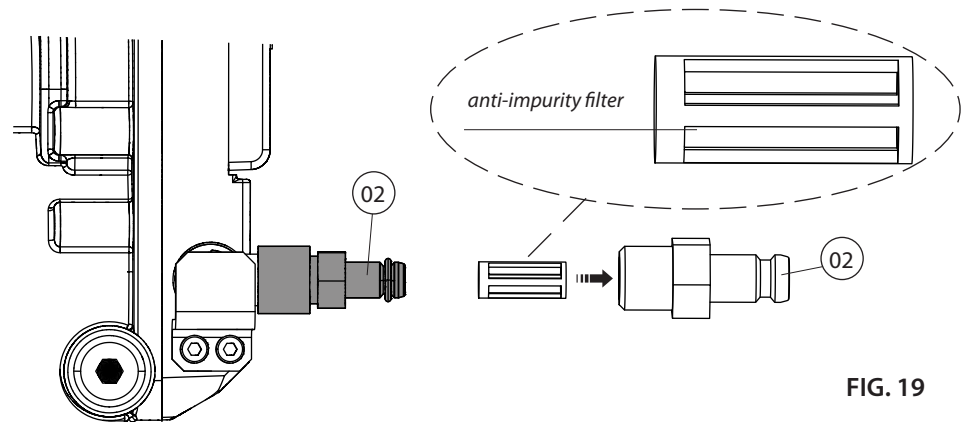

FIG. 19
13.1.5) Cleaning of coolant filter (Ref. to Fig. 19)